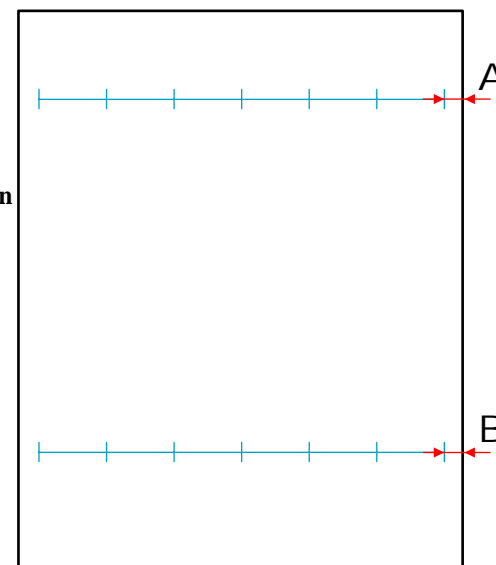

Figure 5-68. Adjustment Pattern
4. Measure the distances of A and B as shown in Figure 5-68.